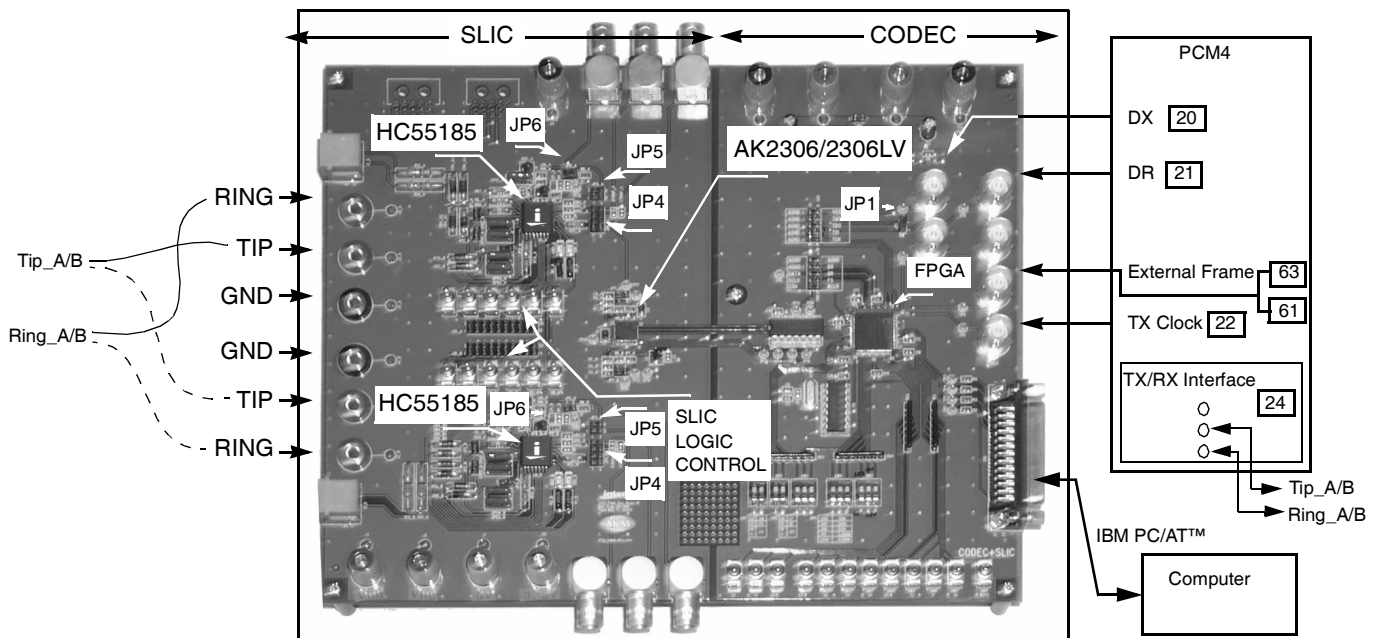

FIGURE 1. AK2306/2306LV EVALUATION BOARD CONNECTION TO PCM4 AND COMPUTER
The AK2306/2306LV Evaluation Board is divided into two areas, one is the CODEC area and the other the SLIC area, as shown in Figures 1 & 2.
This application note will first evaluate the DC performance of the system by configuring the jumpers and hardware for the External Clock/PC Control mode. Figure 1 shows the required connection between the Evaluation Board, PC and PCM4 tester.
The evaluation board was built with either the AK2306 (5V) CODEC or the AK2306LV (3.3V) CODEC (see Figure 1 for placement of CODEC on the board). The following is a check list to verify the correct components and jumper placement for the CODEC on your board.
1. Connect the IBM PC/AT (25 pin) cable between the evaluation board and your computer (Figure 1). Microsoft® Windows® 95 or higher should be installed (Microsoft® Windows NT® is not supported).
2. Connect the PCM4 to the evaluation board as shown in Figure 1.